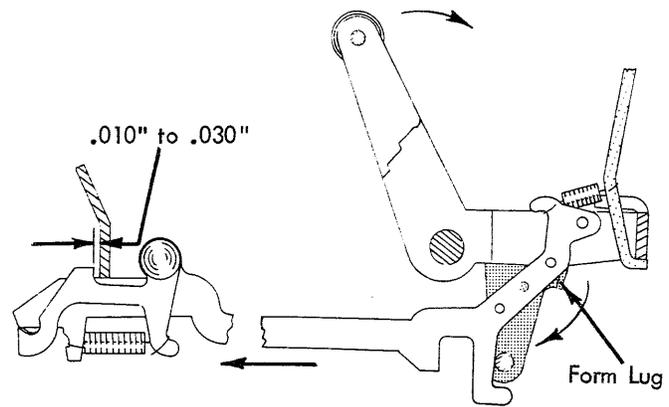

FIGURE 120. Interposer Restoring Bail Adjustment
8. Interposer Restoring Bail - Form the lug at each side of the restoring bail so that the interposers will be restored forward  $.010''$  to  $.030''$  past the latching point (Fig. 120) when either cam is operated. Be sure to check the interposers at each side and form the lug on the side being checked.